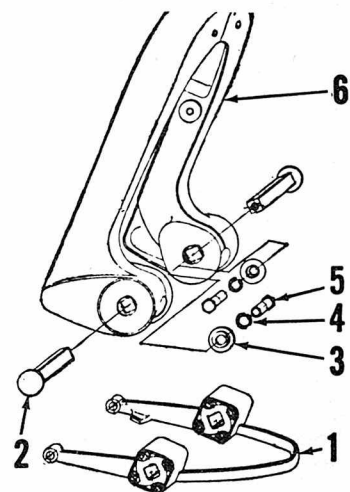

Fig. Y1-14—Exploded view of suspension used on MG1T.
**SUSPENSION.** Refer to Fig. Y1-14 and Y1-15 for suspension used on MG1T, MF-3 and U-5 models.